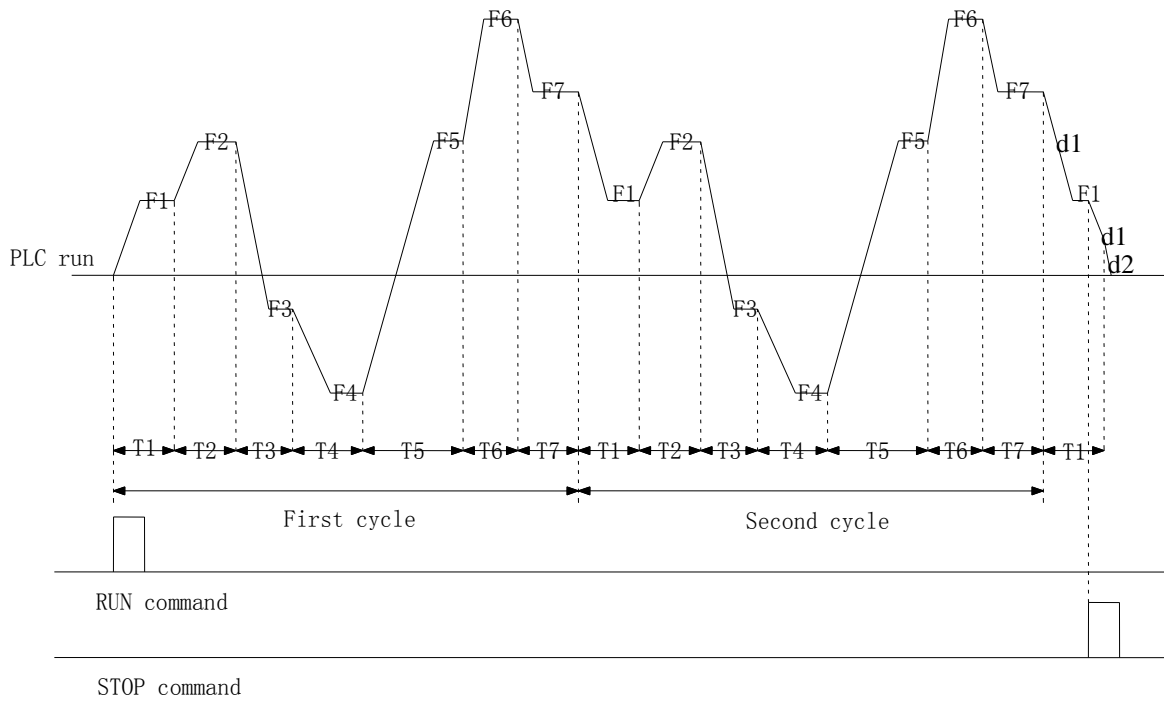

**Fig. 4-41 PLC stop mode after single cycle**
**1: Stop after one cycle.** As shown in Fig.4-41. If inverter stops after single cycle operation, running command should be input once again to start the inverter.